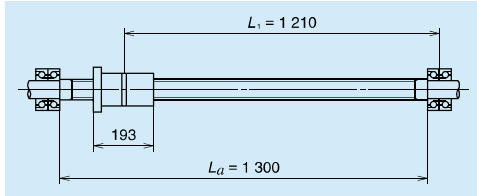

Fig. 16.4 Examination of buckling load
Calculate the buckling load for conditions shown in Fig. 16.4 with P of 10 354 (N) and L1 of 1 210 (mm).